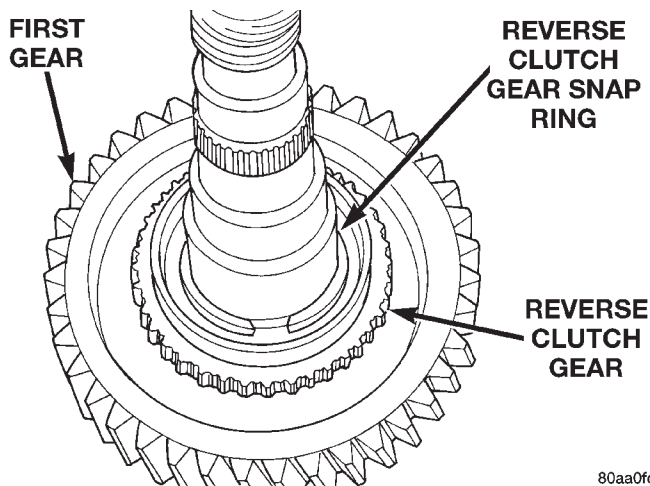

Fig. 113 First Gear, Clutch Gear, And Snap Ring Installation
(23) Verify that 3-4 synchro hub is fully seated on shaft. Approximately 3 mm (0.125 in.) of shaft spline should be visible. If hub is not seated, stop ring lugs are misaligned. Rotate ring until lugs are fully engaged in 3-4 hub slots.
(24) Verify that second and third gear rotate freely at this point. If not, determine the cause and correct.
(25) Invert mainshaft in case or bench. Reverse gear components are easier to install with shaft upright.
(26) Install first gear bearing on mainshaft.
(27) Install first gear on shaft (Fig. 113). Clutch hub side of gear faces front of shaft. Be sure tabs on clutch ring are aligned and seated in first gear hub. 1-2 synchro hub will not seat properly if clutch ring tabs are misaligned.
(28) Install reverse clutch gear on first gear (Fig. 113). Be sure clutch gear is seated on shaft splines.
(29) Install reverse clutch gear snap ring (Fig. 113). Use heavy duty snap ring pliers to install this snap ring as ring tension is considerable. Do not overspread snap ring and make sure it is fully seated in groove. Reverse gear will not fit properly if snap ring is not fully seated.